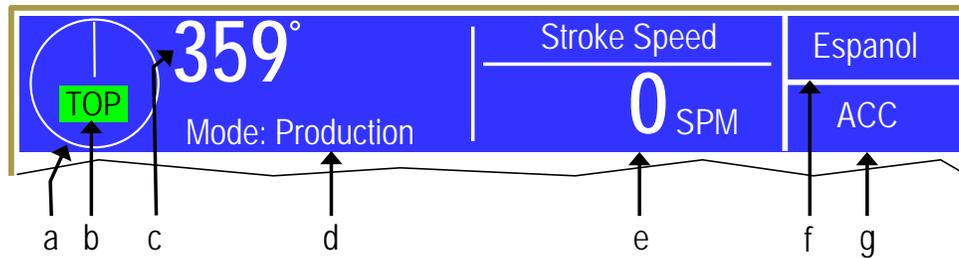
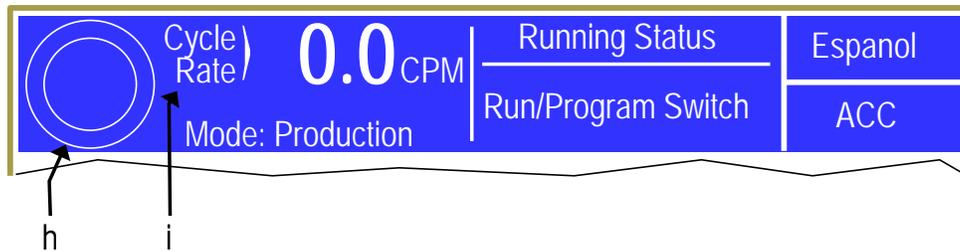

Figure 5: Top Info Area with 5100-11 Encoder
Figure 6: Top Info Area *without* 5100-11 Encoder
Figure 5 shows the top info area when the tonnage monitor is used with the optional 5100-11 encoder. The information available is:
- a) **Graphical Display of Crankshaft Angle** For speeds below 70 SPM or so, this will show the crankshaft angle in either a “clock” format (this is the mode shown in Figure 5) or a “traveling dot” format. Press the screen inside the circle to switch between the formats (this can be done at any time, including while the press is in motion). Above 70 SPM, this will change to rotating arrows to indicate crankshaft motion.
- e) **Programmable Display Area** This area can display a variety of information, based on user selection. Some examples items available include press speed (as shown in Figure 5), tonnage monitor current status, reason for the last stop, part count, total tonnage, and distance to the bottom of the stroke. Press inside this area to cycle to the next available item. The operator terminal can also be configured to automatically show a particular item when the press control mode is switched from a setup mode to a production mode, and vice versa. See section 4.10.1 on page 64 for more information on configuring this area and the information items available.
When the 5100-11 encoder is not used, then some of the information and capabilities provided by the encoder become unavailable. Figure 6 shows what the top info area looks like in that case. The differences from Figure 5 are:
- i) *Cycle Rate Readout*** Without an encoder, crank angle and stroking speed are not available. By using the time between cycles, the tonnage monitor can give a readout of the production cycles per minute. This should be very similar to strokes per minute when running in a continuous mode, but will differ quite a bit if running in single stroke or some other non-continuous mode. For instance, the press may be set to 60 SPM, but the operator may make a stroke every 10 seconds. In that case the cycle rate would be 6 CPM. Note that cycle rate is also available when using the 5100-11 encoder as one of the selectable readouts in the programmable display area (area “e” in Figure 5)